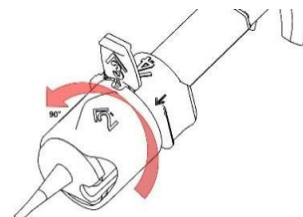

Fig. 2a
5. Turn the transparent rotatable ring as indicated by the flat arrow marked with '2' counterclockwise by 90 degrees until it snaps into place with a distinct "click" (Fig. 2a).